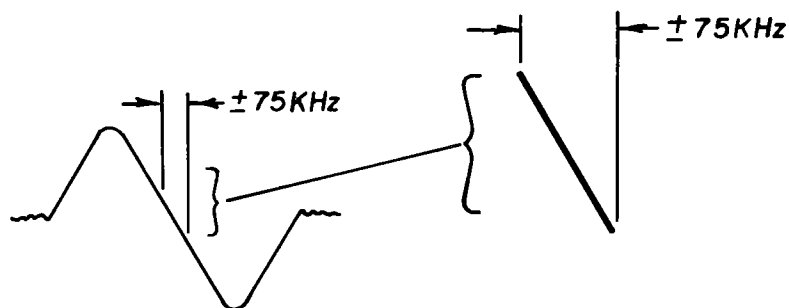

Figure 4
5. To align the FM Detector, with the FM generator connected as in Step 1, move the oscilloscope to the record output jack on rear panel. Reduce the modulation to  $\pm 75\text{KHz}$  and connect a DC VTVM to the detector output (OUT 1). Adjust the top core of the detector transformer for a zero indication on the DC VTVM and the bottom core of the detector transformer for a maximum gain and linearity (see Figure 4).